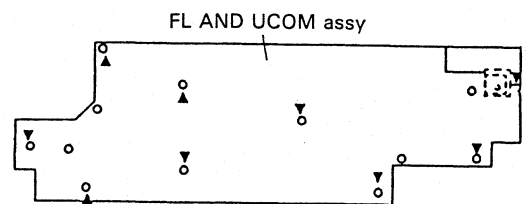

Fig. 2
2. Remove the five screws ①.
3. Remove the Round knob L and remove the screw ② between the volume and the front panel.
6. Remove the screws in Fig. 2 and remove the FL AND UCOM assy.